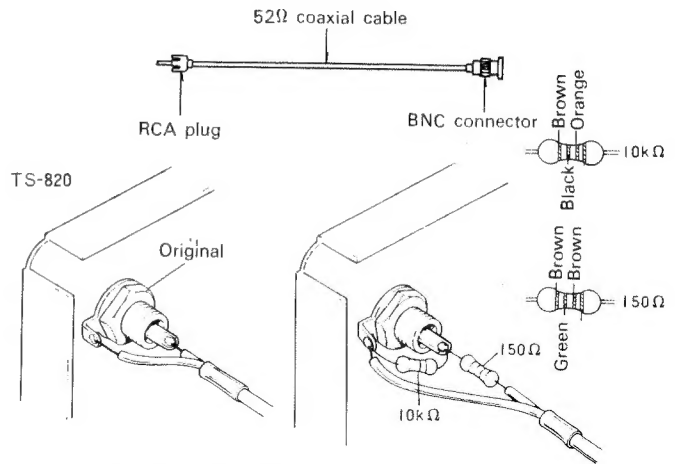

Fig. 5-2 TS-820S IF output matching
1. TS-820S IF OUTPUT requires attenuation, as shown in figure 5-2.